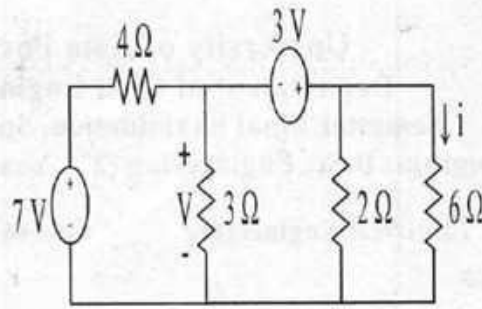

Fig. 3(b)
- (b) Using Mesh Circuit analysis find V in the circuit shown in Fig.3(b) [18]